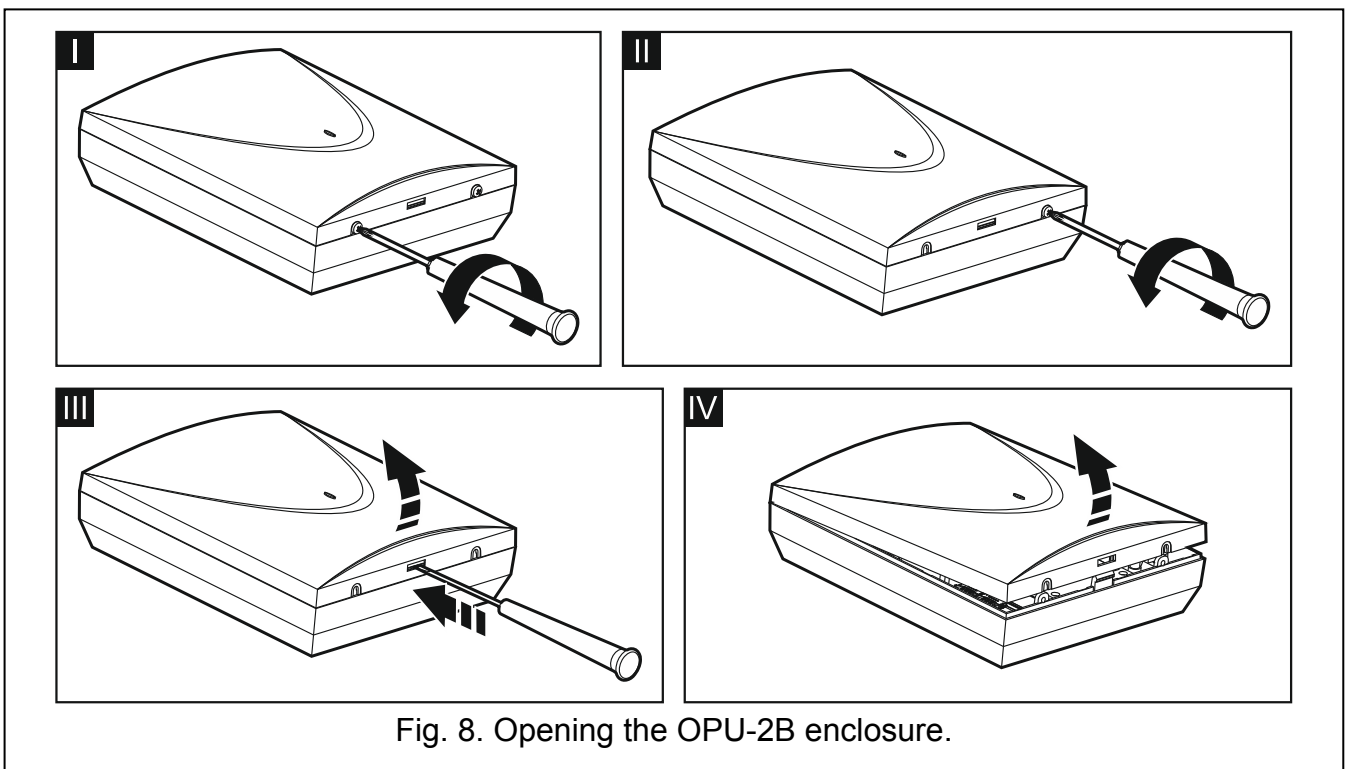

Fig. 8. Opening the OPU-2B enclosure.
1. Loosen the screws locking the enclosure cover and remove the cover (Fig. 8).